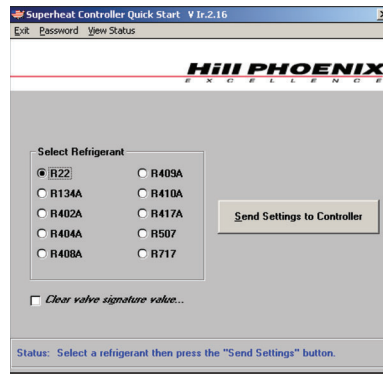

Fig. 5: Quick Start Interface
Smart Valve can communicate externally via infrared (IR) technology. The control module has an onboard emitter and receiver (see Fig. 5 below).
Smart Valve is capable of handling a wide variety of refrigerants and has the ability to select or change the refrigerant through an IR device and a PC. Upon installing and launching the Smart Valve software, a Quick Start interface screen will appear (see Fig. 5).